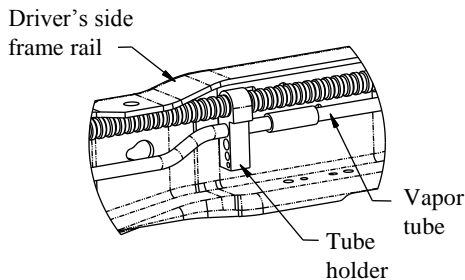
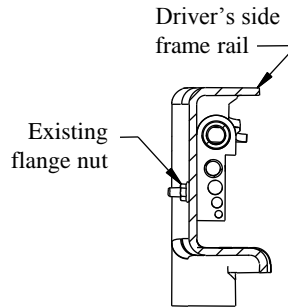
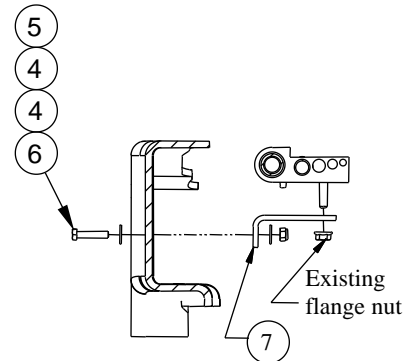

Figure 1a
Figure 1b
Figure 1c
2. **On Gas Engine Vehicles Only.** The vapor tube running along the inside of the driver's side frame rail must be relocated prior to installing the driver's side bracket. See Figure 1a. Remove the flange nut from the outside of the frame and keep for later use. See Figure 1b. Rotate the tubes up and out of the way. Install the L-bracket (7) with 1/4" hardware (4)(5)(6), as shown in Figure 1c. Tighten the L-bracket (7) to the frame, but leave the tube holder loose to aid bracket installation.
13. **On Gas Engine Vehicles Only.** Use the factory flange nut that was removed in Step 2 to tighten the tube holder onto the L-bracket as shown in Figure 1c.